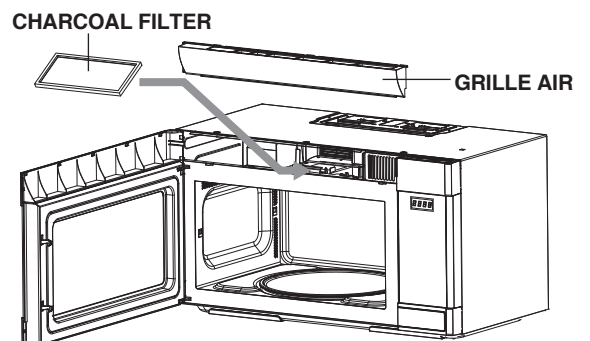

Figure 27
5. Slide a new charcoal filter into place. The filter should rest at the angle. See Figure 27.